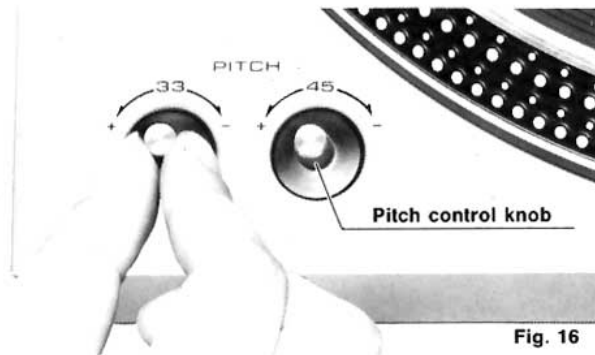

Fig. 16
① SPEED ADJUSTMENT (with pitch control knobs) (See Fig. 16)